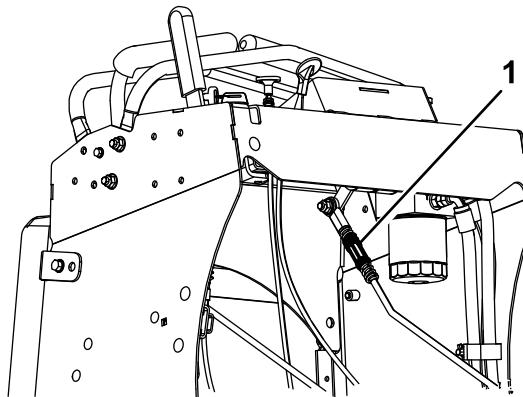

Figure 48
5. Rotate the adjustment rod on the left side of the machine (Figure 48).